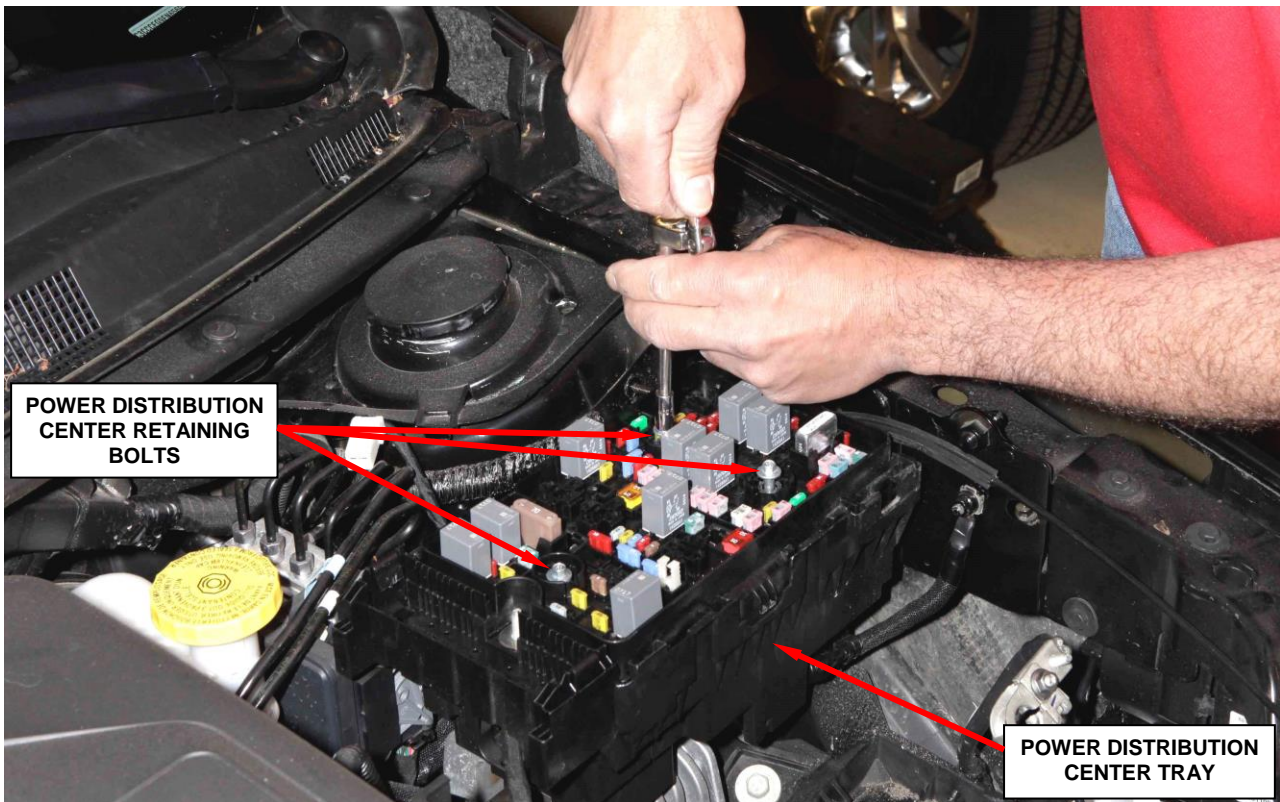

Figure 5 – PDC Retaining Bolts
7. Loosen the three PDC retaining bolts (Figure 5).